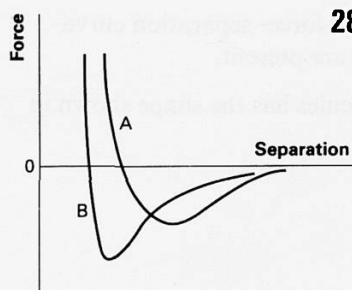

Figure A100
- 28(R)** Figure A100 shows the force–separation curves for a pair of atoms of two crystalline solids A and B. Both solids have the same structure. Which solid